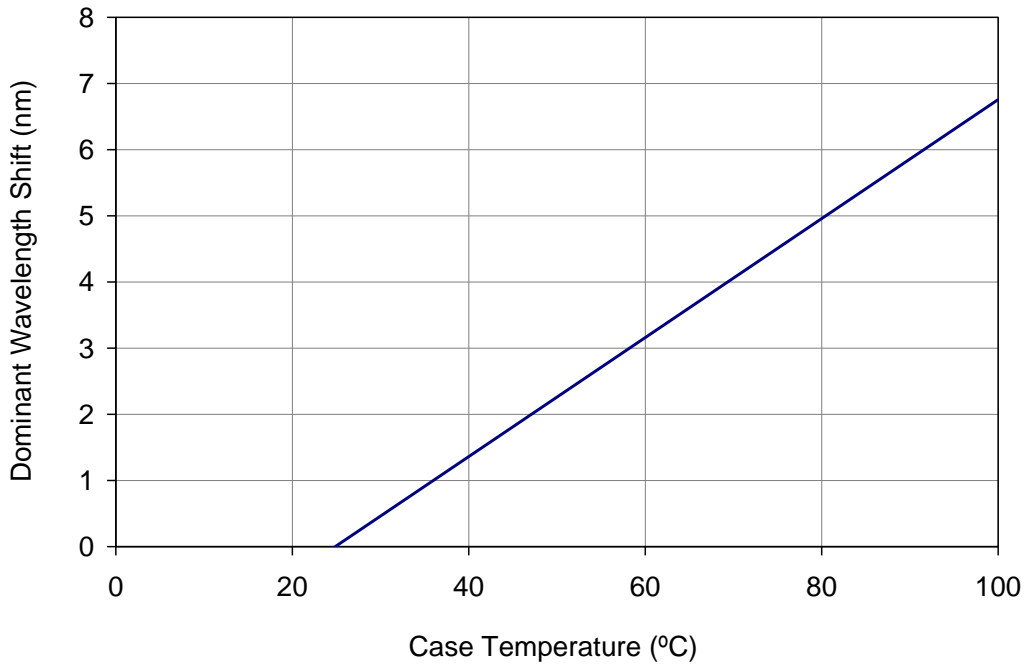

Figure 6: Typical dominant wavelength shift vs. case temperature
- Amber LEDs have a significant shift in wavelength over temperature; please refer to Figure 6 for details. Caution must be exercised if designing to meet a regulated color space due to this behavior as product may shift out of legal color space under elevated temperatures.